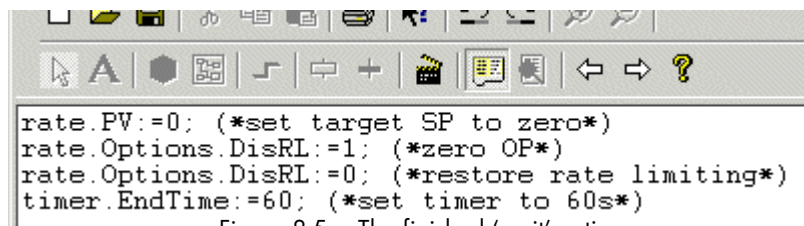

Figure 8-5 The finished ‘wait’ action
- 7 Add the remaining three lines of ST to the action window, according to Figure 8-5. Use the ST prompter to save time and to ensure that you do not mistype any fields.